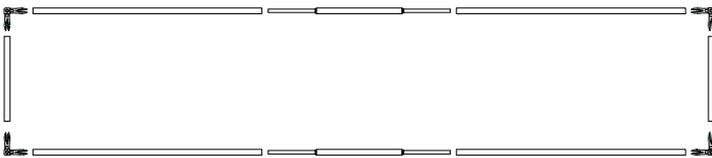

Figure 13: Diagram of 1 ft x 5 ft frame
- 1 Build the 1 ft x 5 ft frame structure as shown in Figure 13 using four 2 ft aluminum frame tubing pieces, two 1x tube connectors, two 1 ft aluminum frame tubing pieces, and four right-angle tubing connectors. Remember to construct the frame so that all Velcro surfaces face in (toward the center of the structure).